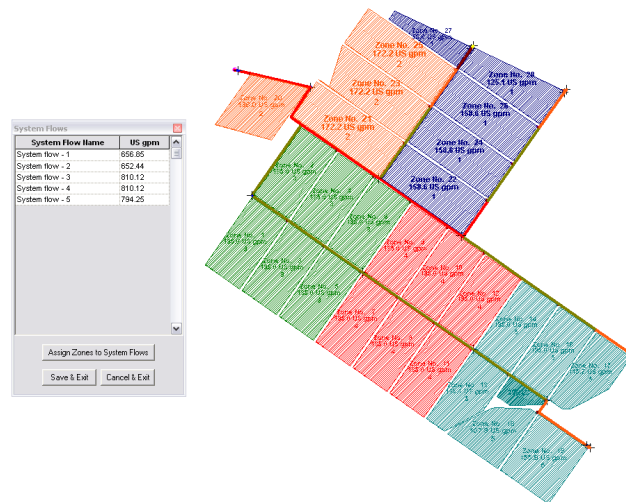

Figure 5-172
7. When the arrangement of zones is acceptable (see Figure 5-172) it can be saved by clicking the *[Save & Exit]* button or choosing *Save and Exit* from the *Right-click* menu.